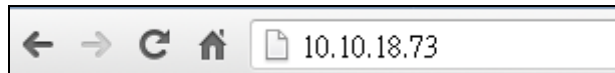

Figure 4-22: IEI iMAN Web Address
Step 3: On the remote management console, open a web browser. Enter the managed system IP address in the web browser (**Figure 4-22**).